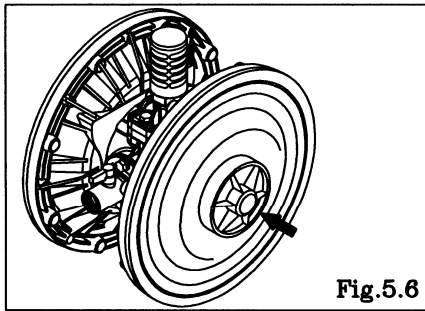

Fig.5.6
- Remove the center disk from one side using the PP wrench (special tool: Part No. 771868). [Fig.5.6]